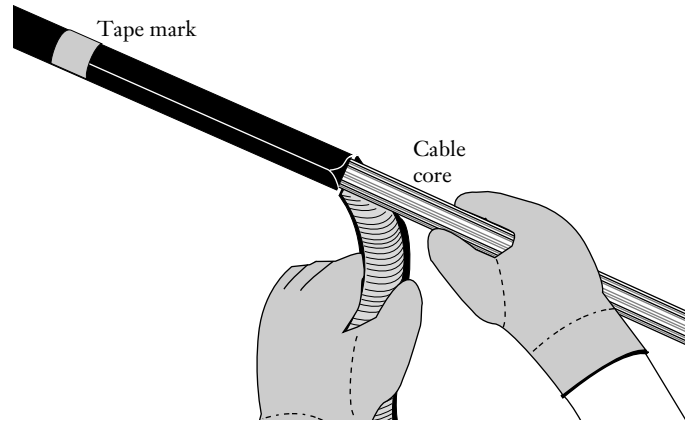

Figure 21
**6.13** Starting at the end of the cable, pull (“banana peel”) the outer sheath back over and away from the cable end, back to the Position 1 ring cut (Figure 21).